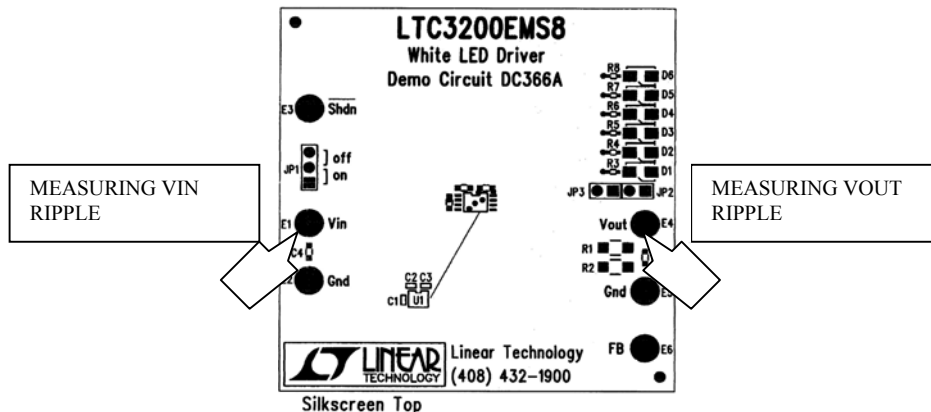

Figure 2 Proper Noise Measurement Technique
- When measuring the input/output voltage ripple care must be taken to avoid a long ground return for the oscilloscope probe. After removing the grabber and outer plastic sleeve from the scope probe, measure the input ripple by touching the probe between VIN and GND (E1 to E2). Measure the output ripple by touching the probe between VOUT and GND (E4 to E5) as shown in Figure 2.